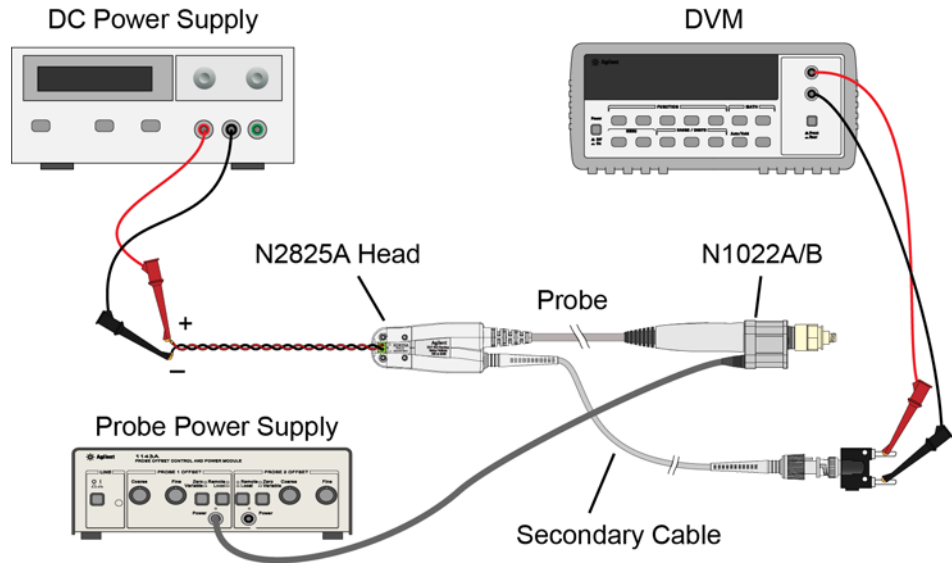

Figure 51 Test Setup for Measuring  $V_{out}$
- 4 Move the multimeter's leads to the banana plug on the output of the N1022A/B as shown in Figure 51.
- 10 Connect the multimeter's leads to the banana plug on the output of the N1022A/B as shown in Figure 51 on page 98.